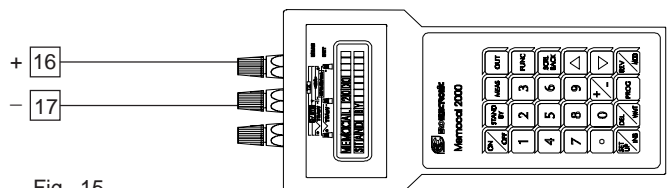

Fig. 15
- a) Connect the instrument under test to the calibrator as shown in Fig. 15.